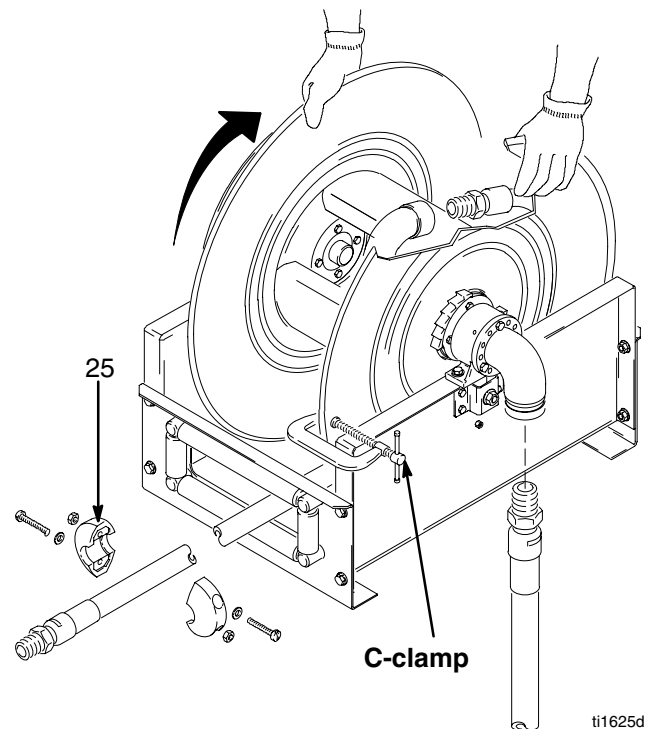

Fig. 2
3. Unlatch the reel drum, and allow it to slowly rotate until all spring tension has been released. Then rotate the reel in the direction of the arrow shown in Fig. 2 to achieve the proper amount of spring tension for the hose you are installing, approximately 14–15 turns.
4. Attach a C-clamp to the reel flange, as shown in Fig. 2, to help prevent the reel from unintentionally becoming unlatched and spinning freely.